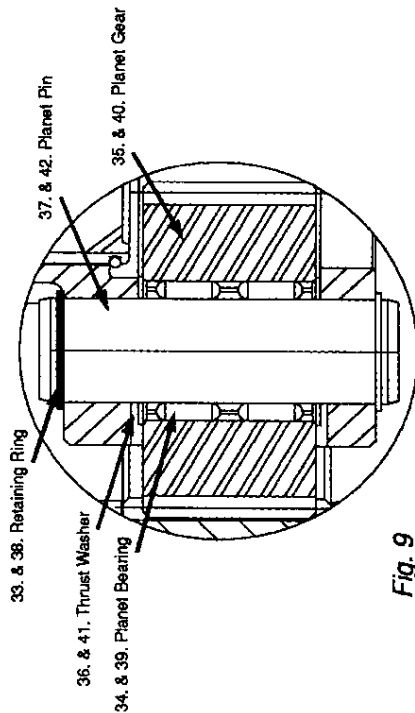

Fig. 9
1. Lubricate planet bearings (34) and press into planet gear (35). (Fig. 9)
2. Lubricate thrust washers (36), place one washer on each side of planet gear (35). Place planet gear and thrust washer in planet carrier (25). (Fig. 9)
4. Secure planet pin (37) with retaining rings (36) on each end of planet pin. (Fig. 9)
6. Lubricate spline on intermediate gear (23), seat retaining ring (24) in groove between spline and gear. Stand intermediate gear on gear end, lay retaining ring (24) on splined end, slide small planet carrier assembly spline onto splined end of intermediate gear (23). With appropriate tool, seat retaining ring (24) into groove at end of intermediate gear (23).
7. Lubricate planet bearings (39) and press into planet gear (40). (Fig. 9)
8. Lubricate planet pin (42) and insert into planet pin hole in planet carrier (19) from splined side of carrier.
9. Lubricate thrust washers (41), place one washer on each side of planet gear (40). Place planet gear and thrust washer in planet carrier (19). (Fig. 9) Drive planet pin (42) through thrust washers and planet gear, into opposite planet pin hole in carrier housing. (Fig. 5 & 9)
10. Secure planet pin (42) with retaining rings (38) on each end of planet pin. (Fig. 9)
12. Using an appropriate tool, press bearing cups (10) and (14) into the housing.
24. Remove retaining rings (33) from ends of planet pins (37). (Fig. 9)
25. Support small planet carrier (25) spline side down and drive planet pins (37) out of planet carrier (25), from input side of carrier. (Fig. 9 & 5)
26. Remove small planet gears (35) and thrust washers (36) from small planet carrier (25). (Fig. 9)
27. Remove planet bearings (34) from small planet gears (35).
28. Remove retaining ring (24) from intermediate gear (23).
29. Remove intermediate gear (23) from small planet carrier (25).
30. Examine brass thrust plugs (22) in end of intermediate gear (23). If wear is apparent, remove by inserting a $\frac{1}{4}$ " self tapping screw and jacking the plug out of the gear.
31. Remove retaining rings (38) from ends of planet pins (42). (Fig. 9)
32. Support planet carrier (19) spline side down and drive planet pins (42) out of planet carrier (19). (Fig. 9 & 5)
33. Remove planet gears (40) and thrust washers (41) from planet carrier (19). (Fig. 9)
34. Remove planet bearings (39) from planet gears (40).